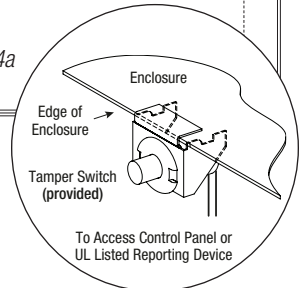

Fig. 5 - Maximal77D
+ BAT –	Stand-by battery connections. Connect one (1) 12VDC battery to the terminals marked [+ BAT –] for 12VDC operation (Fig. 3, pg. 10, Fig. 5, pg. 12). Use two (2) 12VDC batteries wired in series for 24VDC operation (Figs. 3-5, pgs. 10-12).